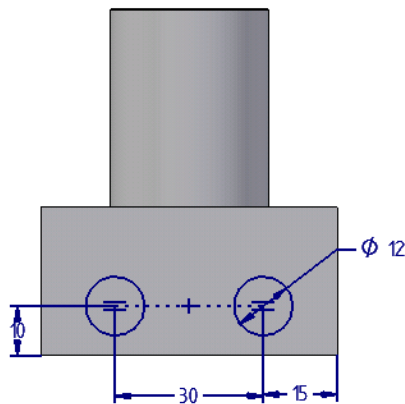

Figure 5-55 Profile for the cutout
3. Draw the profile for the cutout. The profile consists of two circles each with a diameter of 12, as shown in Figure 5-55.